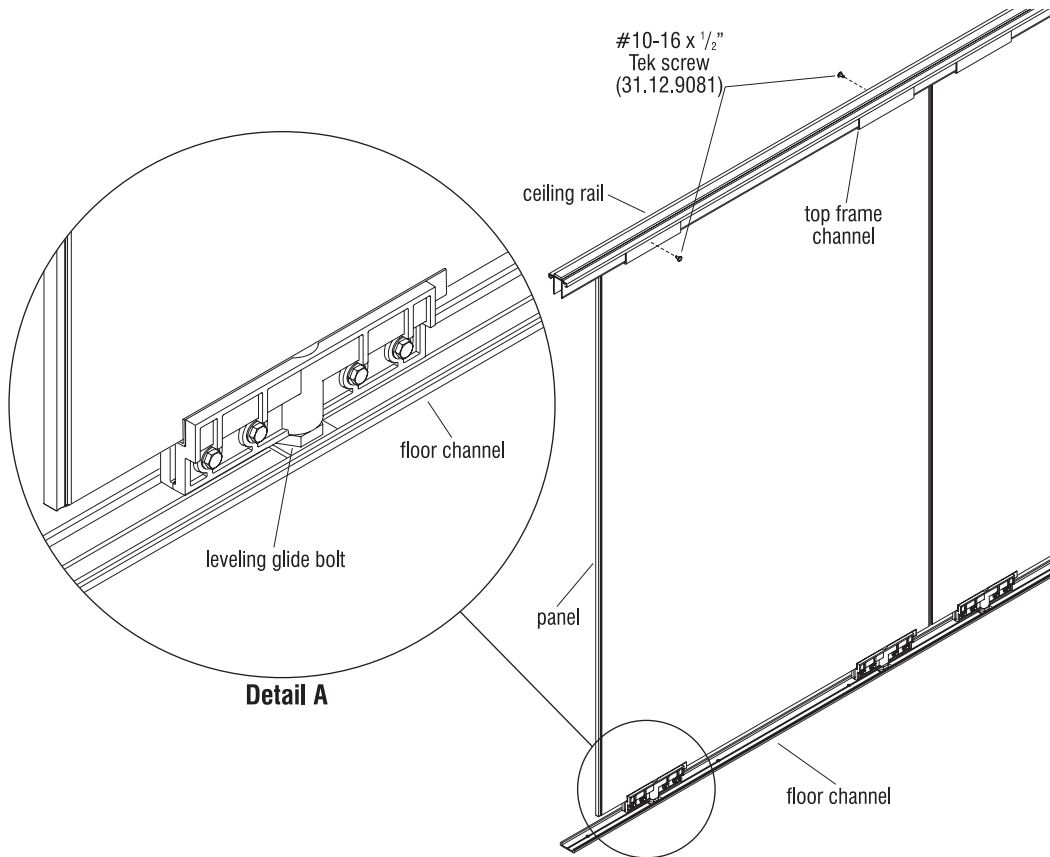

Figure 1
1. Using supplied wrench (50.1857), re-adjust the level and height of the panel as required by turning the leveling glide bolts at both ends of the panel (Figure 1 & Detail A).